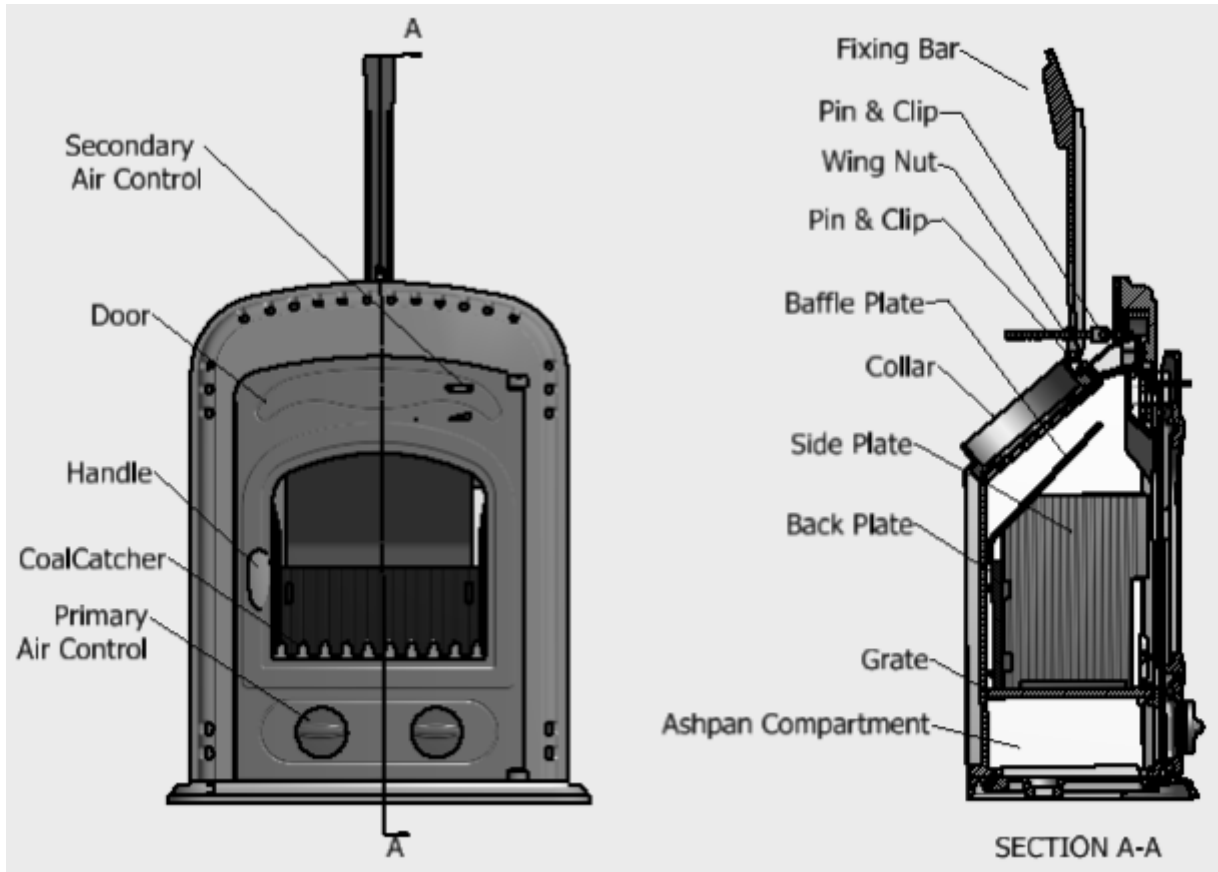

Fig 2 – AR5i Stove Assembly and controls
- Secure the fixing bar and the tightening screw to the stove as shown in fig. 2. Do not put on the wingnut until the stove is in place.